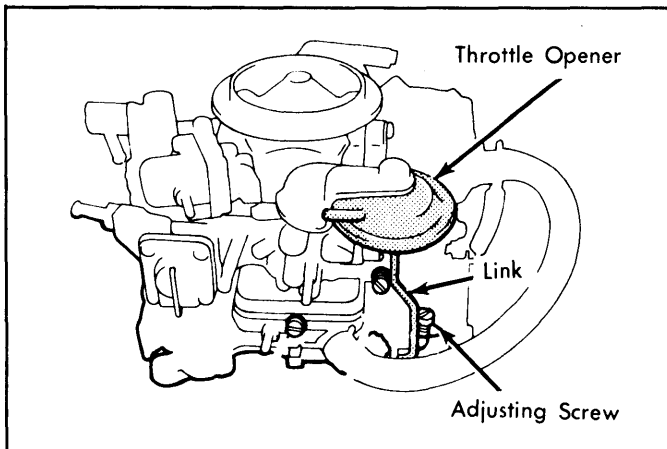

Fig. 4: Throttle Opener Adjustment
5) If not, turn throttle opener adjusting screw until engine speed is within specifications. See Fig. 4. Remove jumper wires and reattach connector to solenoid.